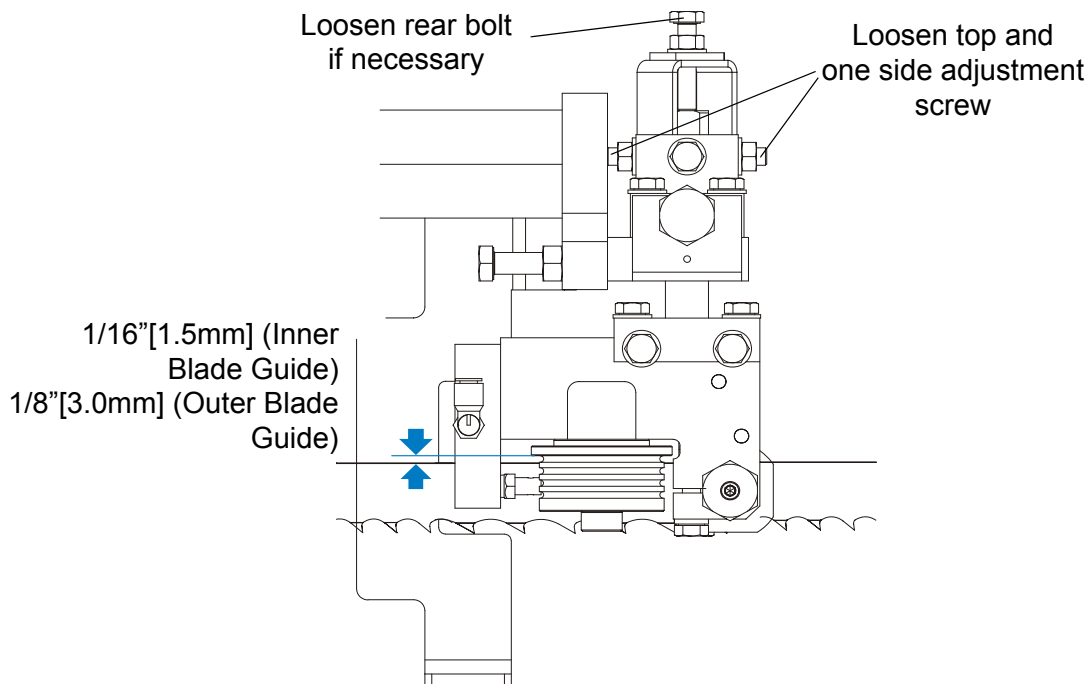

FIG. 7-37
**See Figure 7-37.** Loosen the top and one side screw shown and rear adjusting bolt if necessary. Tap the blade guide forward or backward until properly positioned. Retighten the screws and jam nuts.